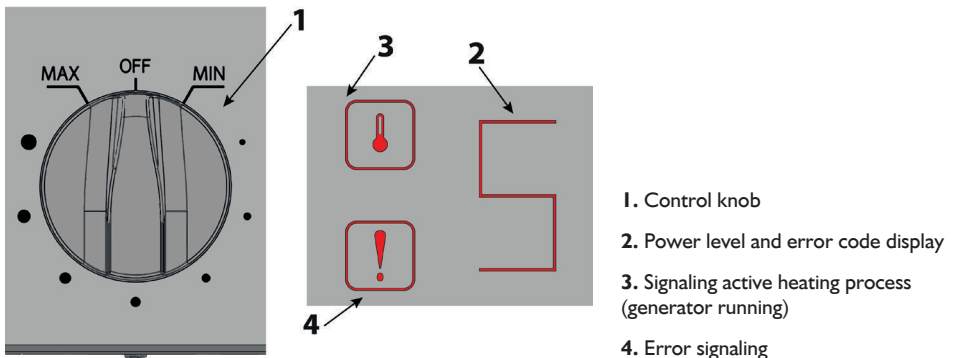

Figure 8. Device controls
- Prior to operation, the control knob (Fig.8 pos. 1) should be set to “OFF”.
- Turn the knob clockwise and set the target power (“MIN” position - value 1, minimum power of the device, “MAX” position - value 9, maximum). The set power is shown continuously on the display (Fig.8 pos. 2) of the given heating zone located on the glass-ceramic hob. The lamp signalling heating - generator work - will light up (Fig. 8 pos. 3).
- During operation, heat is transferred to the glass-ceramic hob. After finishing work and setting the knob in the “OFF” position, the letter “H” will appear on the display (Fig. 8 pos. 2), meaning that the glass is hot and should not be touched, as it may cause burns. This symbol is displayed until the fans have cooled the hob to a safe level.